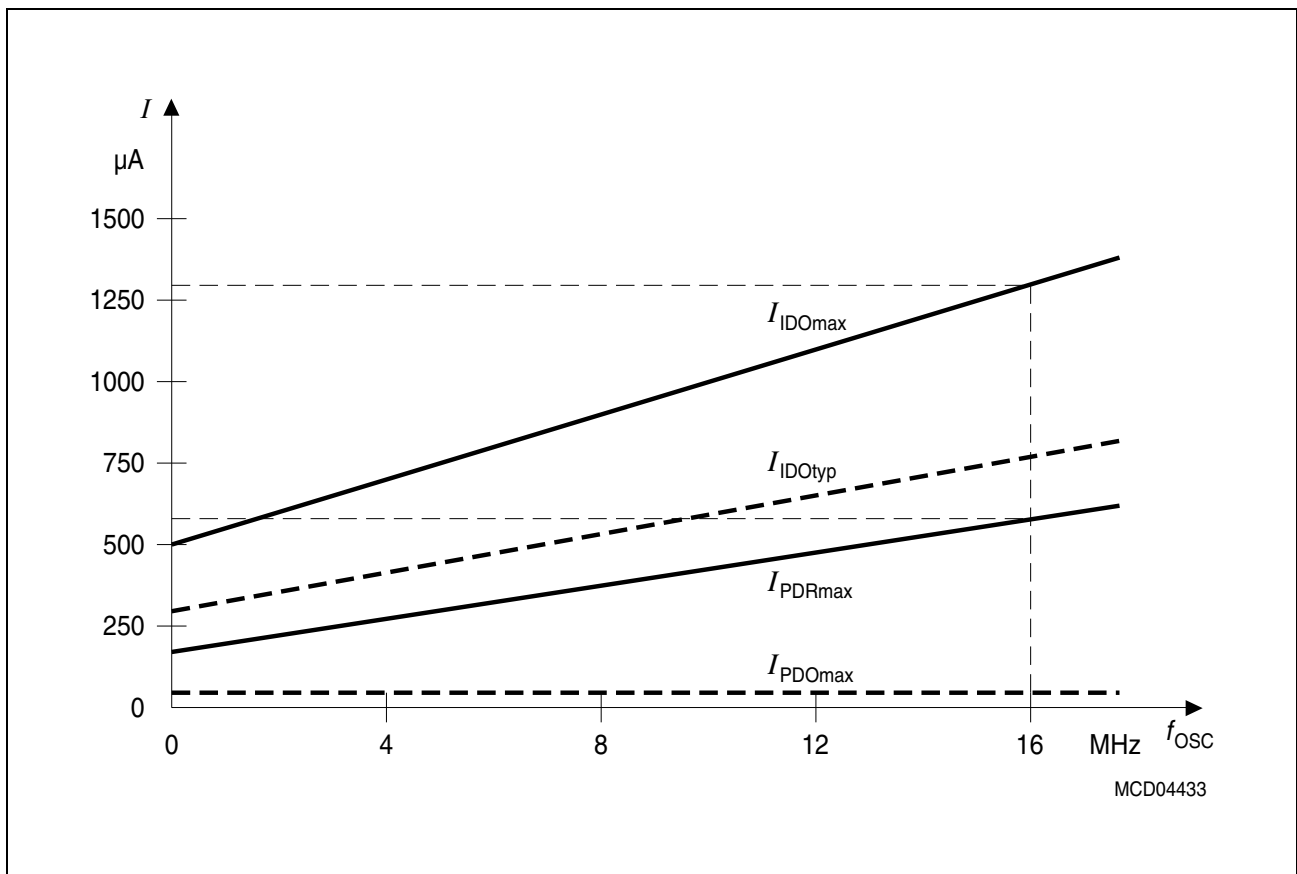

Figure 8 Idle and Power Down Supply Current as a Function of Oscillator Frequency
- ²⁾ This parameter is determined mainly by the current consumed by the oscillator (see Figure 8). This current, however, is influenced by the external oscillator circuitry (crystal, capacitors). The values given refer to a typical circuitry and may change in case of a not optimized external oscillator circuitry.
- 2) This parameter is determined mainly by the current consumed by the oscillator (see Figure 8). This current, however, is influenced by the external oscillator circuitry (crystal, capacitors). The values given refer to a typical circuitry and may change in case of a not optimized external oscillator circuitry.